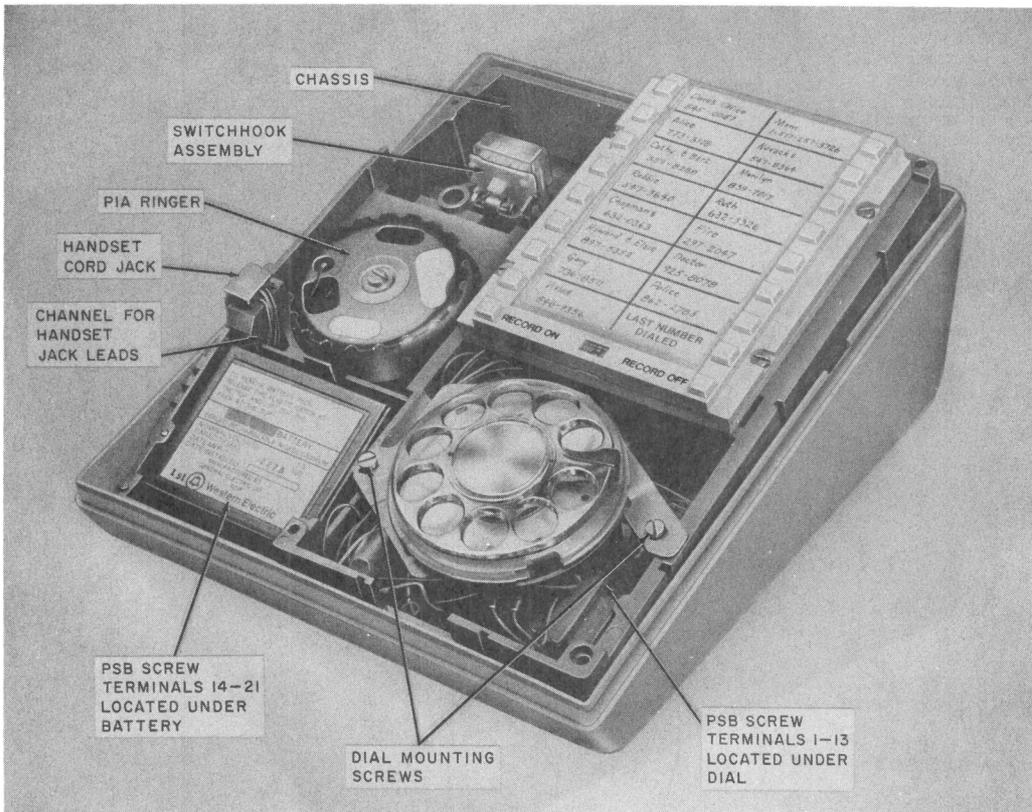

Fig. 5—960A01M Telephone Set With Handset, Faceplate, Shield, and Upper Housing Removed
- **Battery**—snaps into a cavity from the top side in the left front corner of the chassis (Fig. 5).
- **Ringer**—fastened by two screws to bosses on the bottom of the chassis (Fig. 9A) and rests in a cavity just to the rear of the battery cavity (Fig. 5).
- **Handset Jack**—slides into a cavity on the top left side wall of the chassis adjacent to the ringer and battery (Fig. 5).
- **Switchhook Assembly**—soldered to power supply printed wiring board and located at left-rear corner of power supply board (PSB) (Fig. 5).
- **Power Supply Printed Wiring Board Screw Terminal Areas**—(Fig. 5 and 6).
- **Chassis**—main structural member to which other component assemblies are fastened, including the upper and lower housings (Fig. 5 and 9).
- (1) Confirm trouble report either as an automatic dialer (Part 5), or as a basic telephone set.
- (2) Check for improper connections.
- (3) Refer to Table H and paragraphs 6.04 through 6.08.
6.04 The KS-20390L5 battery has an expected life of about 4 years. It can be replaced without loss of memory provided that commercial ac power to the set is continuously maintained. To replace the battery, proceed as follows (Fig. 5).